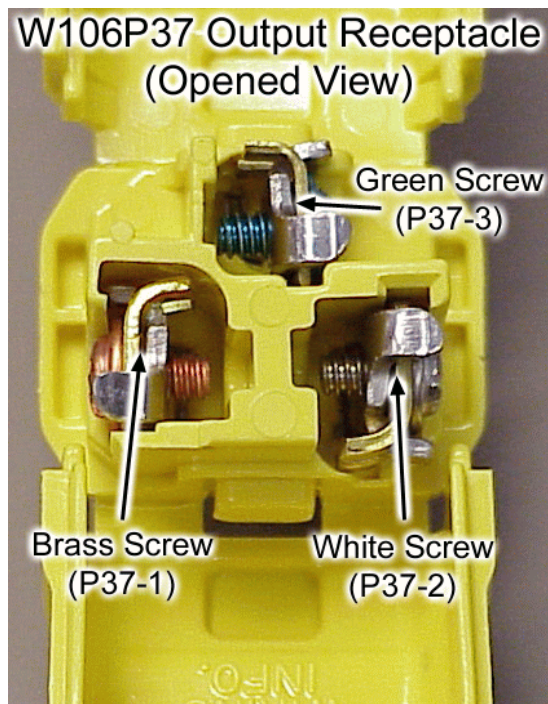

Figure 3 P37 Output Receptacle
12. Open the W106P37 output receptacle and add the following wires. Refer to figure 3.